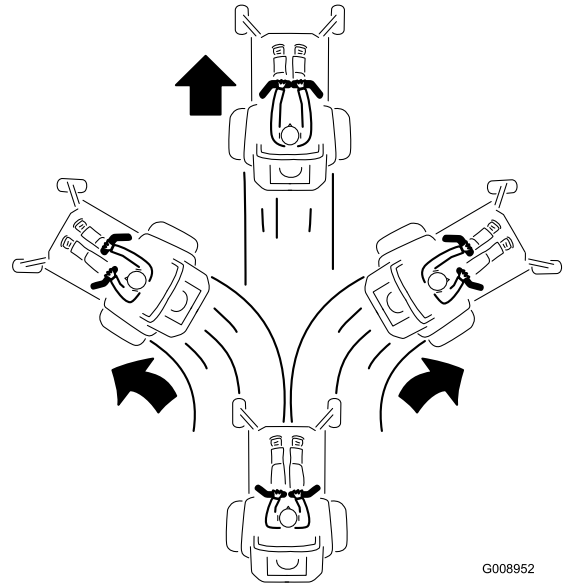

Figure 15
2. To go forward, slowly push the motion-control levers forward (Figure 15).
To go straight, apply equal pressure to both motion-control levers (Figure 15).
To turn, release pressure on the motion-control lever toward the direction you want to turn (Figure 15).